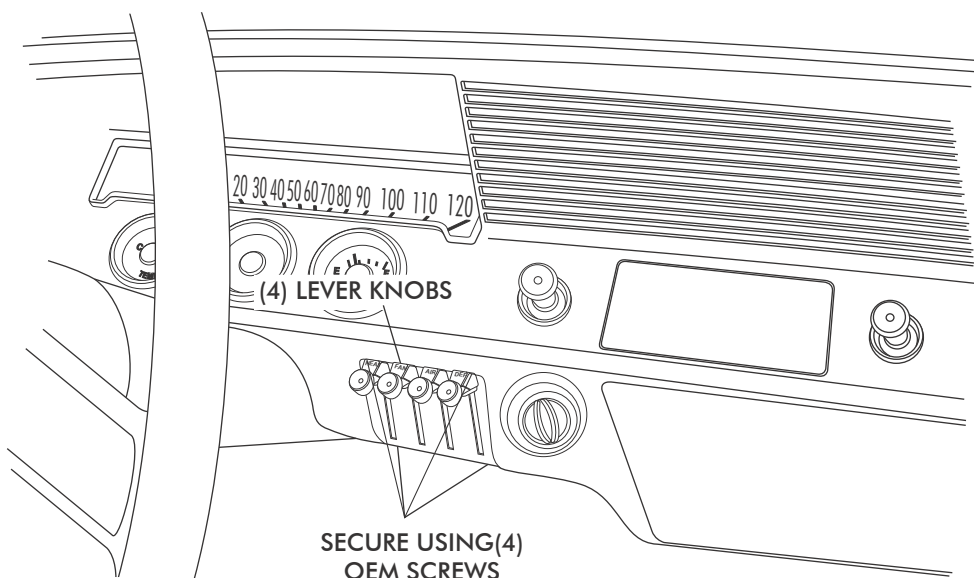

FIGURE 9
- ONCE CONTROL PANEL IS INSTALLED, INSTALL THE (4) MODE LEVER KNOBS AS SHOWN IN FIGURE 9 BELOW. NOTE: THE FIRST LEVER (HEAT) WILL NOT BE USED.